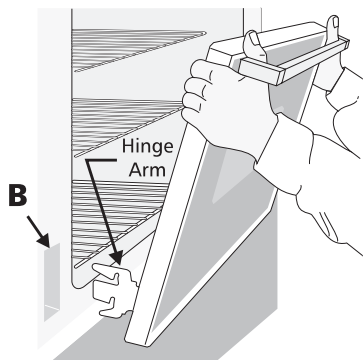

Figure 12
2. Place top of the hinge arm against the top of the opening (B in Figure 12) in the oven frame. Press the bottom of the door in until the hinge is all the way into the opening.